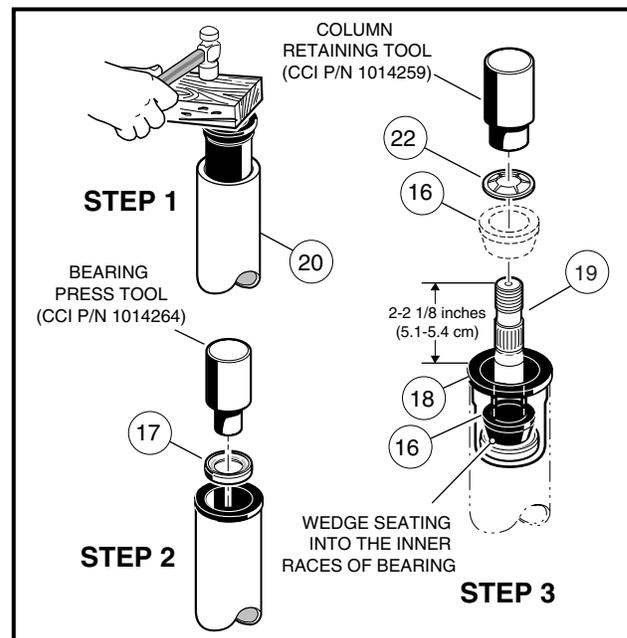

Figure 7-6 Steering Shaft – Top End
5. Turn the assembly over and place the shaft (19) on a bench. Install the wedge (16) and retaining ring (22) onto the top of the shaft **(Figure 7-6, Page 7-5)**. Be sure the prongs on the retaining ring face up and away from the wedge. Use a steering column retaining ring tool (CCI P/N 1014259) to seat the retaining ring to the proper depth. Support end of tube while pressing. If you do not have the recommended tool, use the same tube as was used in step 2 to press the retaining ring onto the top of the shaft. The retaining ring should be pressed onto the shaft until 2 to 2-1/8 inches (5.1-5.4 cm) of the shaft extends from the top of the bearing seat in the steering tube **(Figure 7-6, Page 7-5)**.